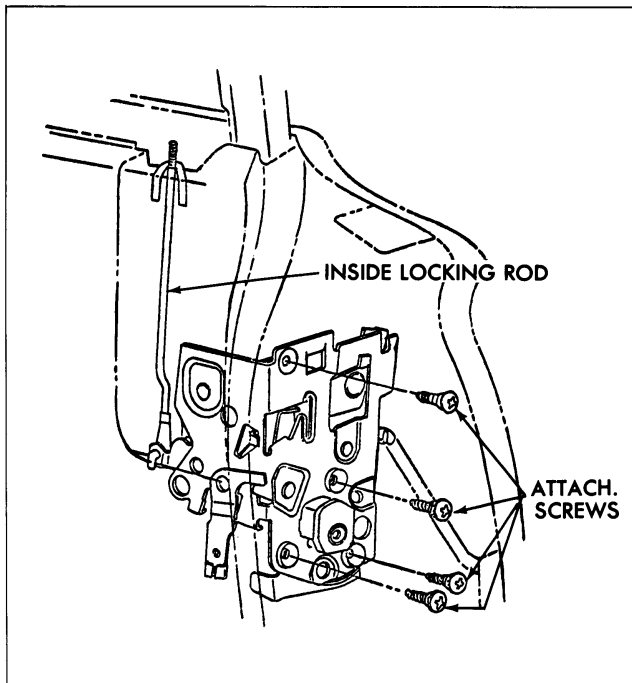

Fig. 3-46 Door Lock Attachment
4. At lock pillar facing, remove lock attaching screws and remove lock through access hole (Fig. 3-46).